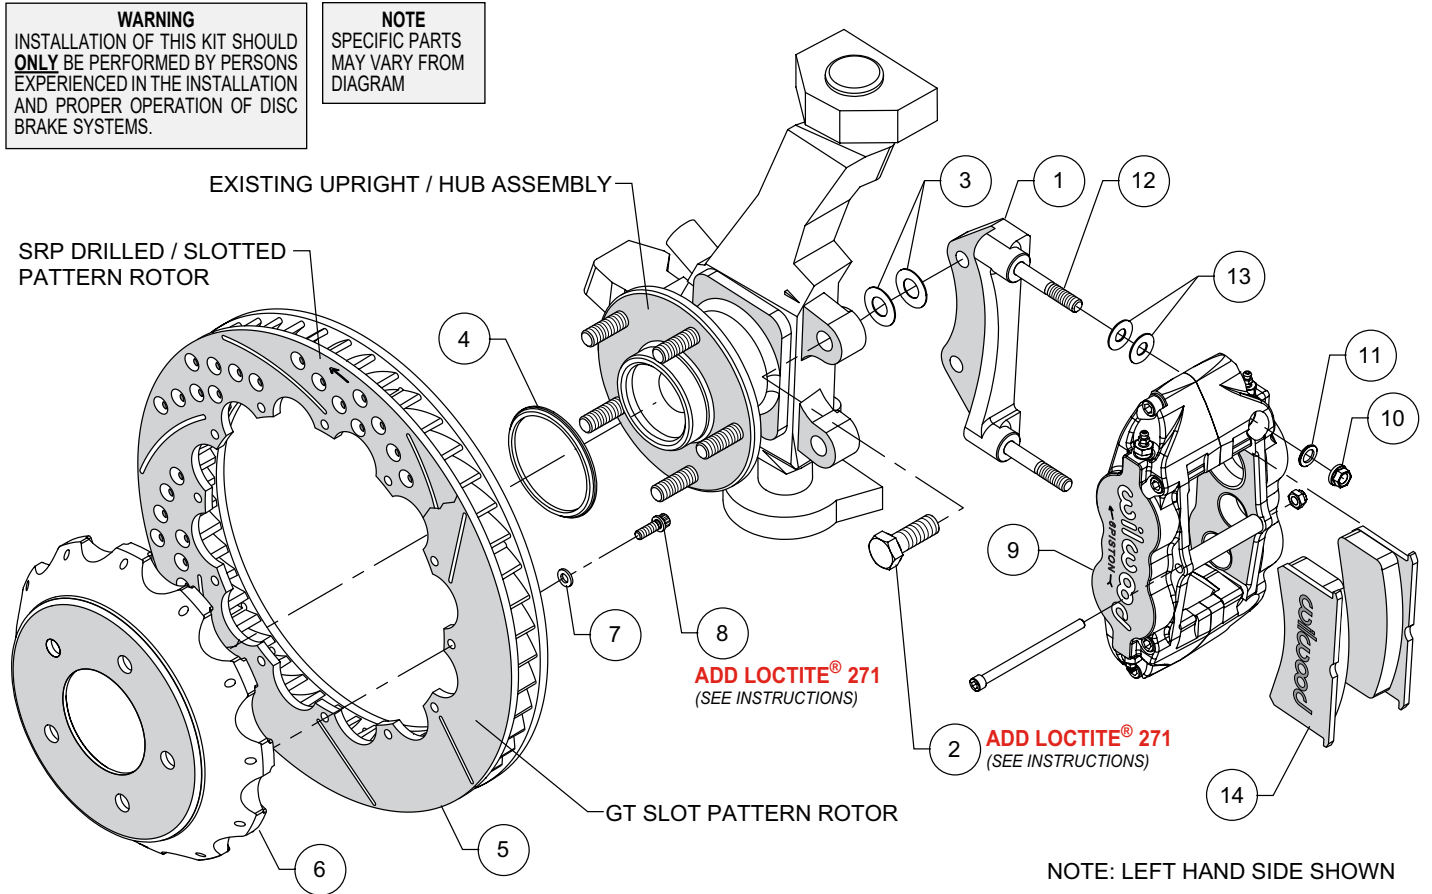
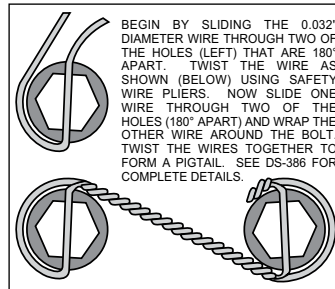

Figure 1. Typical Installation Configuration
Figure 3. Safety Wire Diagram
NOTE: Numbers in parenthesis refer to the parts list and Figure 1 on the preceding pages.
- The caliper mount bracket (1) should initially be installed with clean, dry threads on the mounting bolts. Orient the bracket as shown in Figure 1 and Photo 1, and install using shim washers (3) and bolts (2). Initially place two shims (3) on each bolt between the bracket and upright, Figure 1. Temporarily tighten the mounting bolts. **NOTE:** *The bracket must fit squarely against the mount bosses on the upright.* Inspect for interference from casting irregularities, machining ridges, burrs, etc. Later, after the caliper alignment has been checked, the mount bolts will be secured using red *Loctite*® 271.
- Orient the rotor (5) and the hat (6) as shown in Figure 1 and Photo 2. Attach rotor to hat using bolts (8) and washers (7). Apply red *Loctite*® 271 to the bolt threads and torque to 155 in-lb using a criss-cross pattern. For an added measure of security, the bolts may be safety wired using standard 0.032 inch diameter stainless steel safety wire as shown in Figure 3. Please refer to Wilwood's data sheet DS-386 (available at www.wilwood.com/Pdf/DataSheets/ds386.pdf) for complete safety wire installation instructions.
- Slide the rotor registration adapter (4) onto the axle register on the axle hub with the smaller O.D. facing outward, Photo 3. Slide the hat/rotor assembly onto the axle hub. **NOTE:** *The hat must fit flush against the axle hub flange or excessive rotor run out may result.* Install three lug nuts (finger tight) to keep the hat/rotor assembly in place while continuing with the installation.
- NOTE:** *This kit contains distinct right and left hand calipers that must be mounted in a specific direction, as described below.* Initially place two .035" thick shims (13) on each stud (12) as shown in Figure 1 and Photo 4. Mount the caliper (9) onto the bracket (1) using lock nuts (10) and washers (11), Figure 1. Ensure that the caliper is mounted so that the largest pistons are at the rotor exit end of the caliper, in relation to the direction of rotor rotation. Temporarily tighten the lock nuts and view the rotor through the top opening of the caliper. The rotor should be centered in the caliper, Photo 5. If not, adjust by adding or subtracting shims (3) between the bracket and the upright. Always use the same amount of shims on each of the two mounting bolts. Once the caliper alignment is correct, remove the bracket mounting bolts (2) one at a time, apply red *Loctite*® 271 to the threads, and torque to 105 ft-lb.